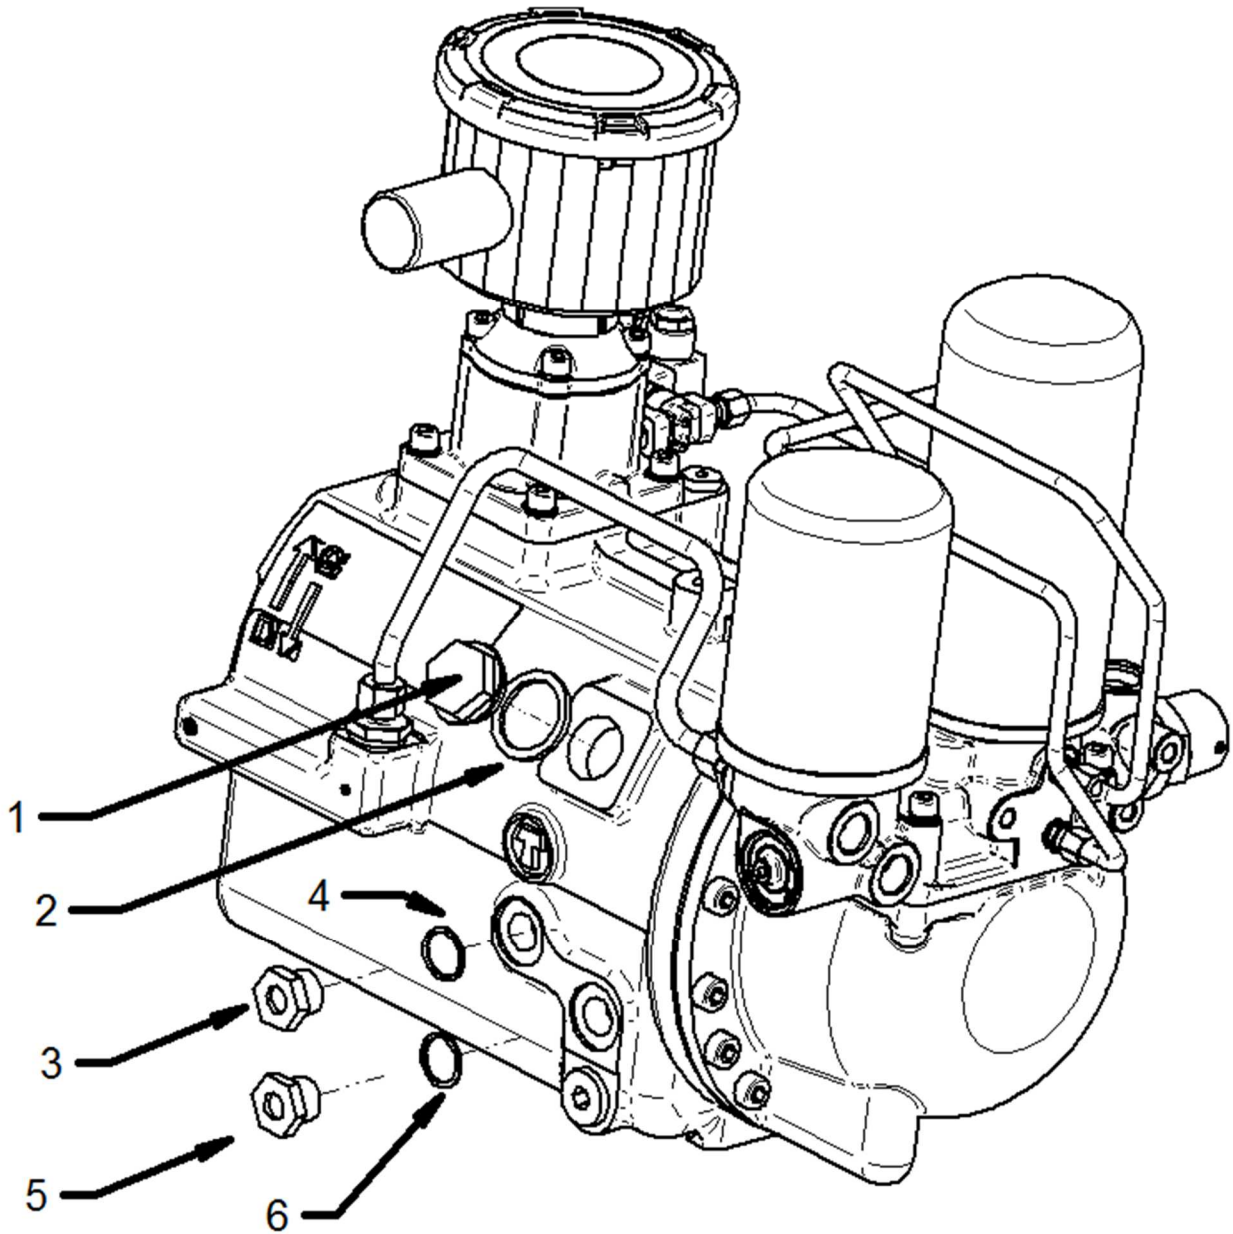

Fig. 3-1 SCI8DT05 Integrated Compressor– Oil level sight glasses/oil topping up
PROCEDURE: 1. Oil level check (refer to figure 3-1) a. The oil level must not sink below the lower half of the sight glass (5) when the compressor is not running. b. When needed, add oil of the same kind present in the machine. Refer to Section 5 of maintenance manual, for the lubricants to use. c. For the topping up of the oil proceed as follows: Warning! Use exclusively very clean containers and funnels for the oil filling. 1. Unscrew filler cap (1) and gasket (2) placed on the compressor casing. 2. Pour the new oil from filler up to the maximum level. The maximum oil level corresponds to the middle of the oil level sight glass (3) 3. Retighten filler cap (1).